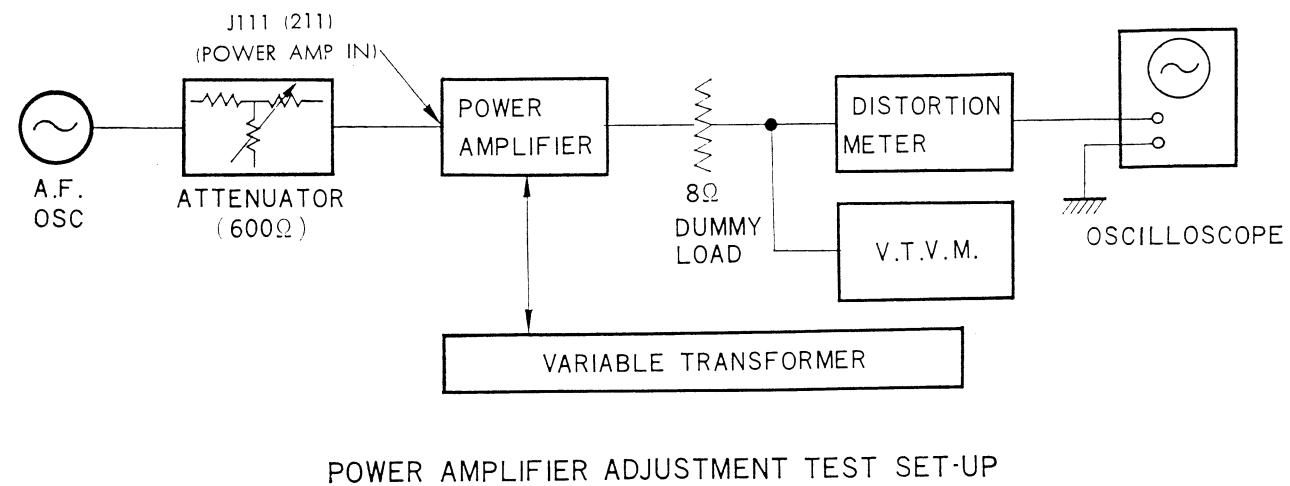

Fig. 2-1.
Step 1 ; With the equipment connected as shown in Fig. 2-1 and all power switches in the ON position, feed a 1kHz signal through attenuator.
Step 1: With the equipment connected as shown in Fig. 2-1. Feed a 1 KHz signal to the TUNER or AUX input jack through attenuator.